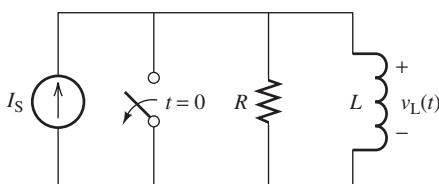

FIGURE P5.19 Circuit for Problems 5.19 to 5.21.
- 5.19** (A) Find the expression for the inductor current, $i_L(t)$, in Figure P5.19. (The switch is opened at $t = 0$.) $i_L(0) = 0$.
- 5.20** (A) Find the expression for the power absorbed by the inductor in Figure P5.19. (The switch is opened at $t = 0$.) $i_L(0) = 0$.
- 5.21** (A) Find the expression for the energy stored by the inductor as a function of t in Figure P5.19. (The switch is opened at $t = 0$.) $i_L(0) = 0$.